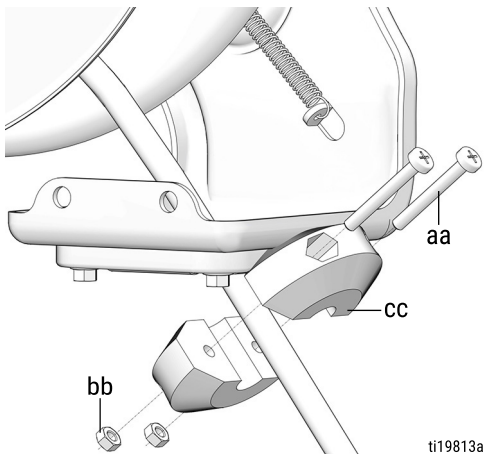

FIG. 12
9. Remove the hose stop from the hose end and put all of the parts in a secure place for re-installation on the new hose (FIG. 12).
- a. Loosen and remove screws and nuts (FIG. 12).
- b. Separate the two hose stop components to remove from the end of the hose (FIG. 12).